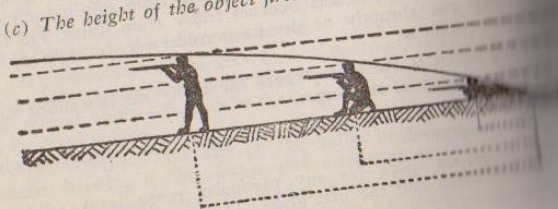

FIG. 5.
- 2. The higher the object fired at (Fig. 5).